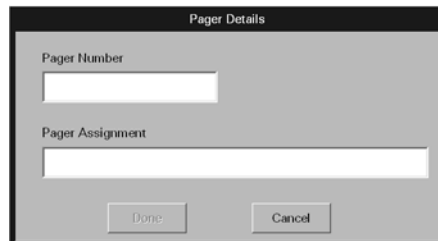

FIGURE 15-3 Pager Details Dialog
1. From the **Paging** tab, select the **Add Pager** sidebar button. The Pager Details dialog (shown in FIGURE 15-3) is displayed.